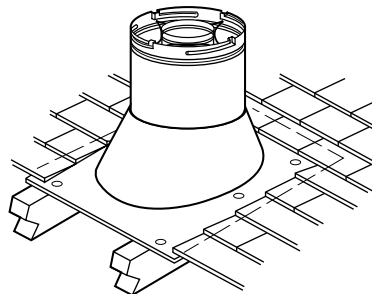

Figure 23
I. Install the roof flashing - Extend the vent sections through the roof structure. Install the roof flashing over the vent section and position such that the vent column rises vertically (use carpenter's level) (**Figure 23**). Nail along perimeter to secure flashing or adjust roofing to overlap the flashing edges at top and sides only and trim where necessary. Seal the top and both sides of the flashing with waterproof caulking.